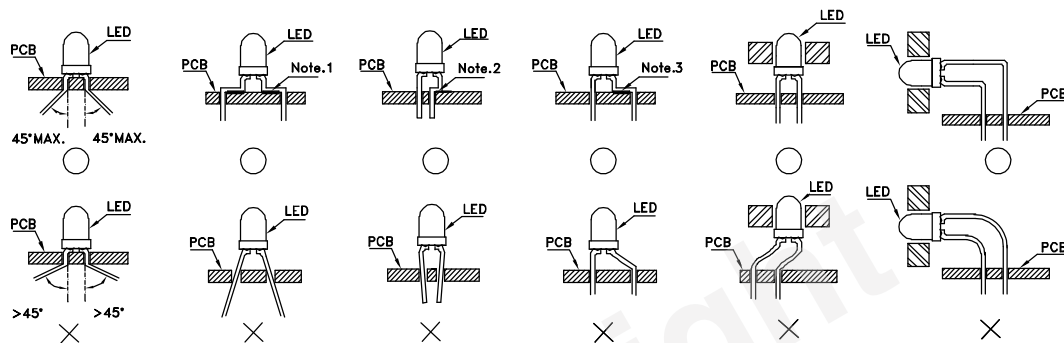

Fig.1
2. The lead pitch of the LED must match the pitch of the mounting holes on the PCB during component placement. Lead-forming may be required to insure the lead pitch matches the hole pitch. Refer to the figure below for proper lead forming procedures. (Fig. 1)